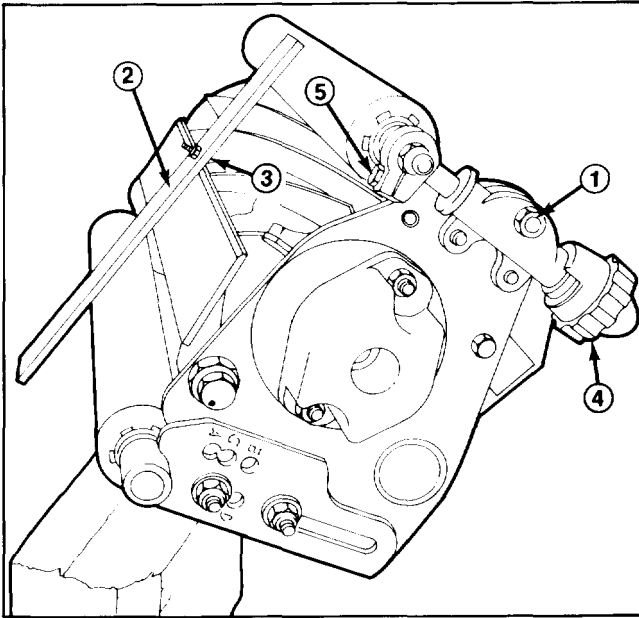

Figure 7
2. Turn cutting unit over and loosen locknuts securing front roller adjusting screws to Height of Cut brackets (Fig. 7).
4. Place the bar across the front and rear rollers and adjust the height of cut knob until the underside of screw head engages the bedknife cutting edge (Fig. 7).
1. Assure rear roller is in the desired height of cut position. Loosen the bolts anchoring the front roller shaft. Rotate the shaft (Fig. 7).
3. Tighten the roller shaft bolts (Fig. 7).